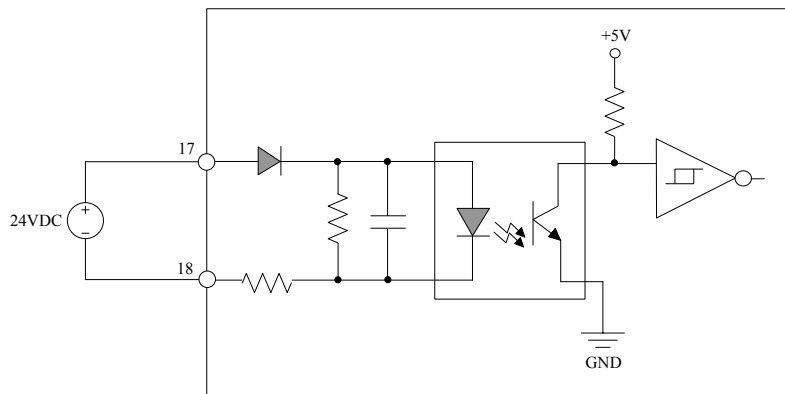

Figure 11.18: Field Power Loss Detection Circuit of LK65I
- As shown in Figure 11.18, terminal “17” connects to the positive end of field power supply while terminal “18” connects to its negative end. LK65I carries out power loss detection by checking the changes of input voltage between these two terminals. In case of any failure, the failure status will be reported to the controller as the diagnosis data.